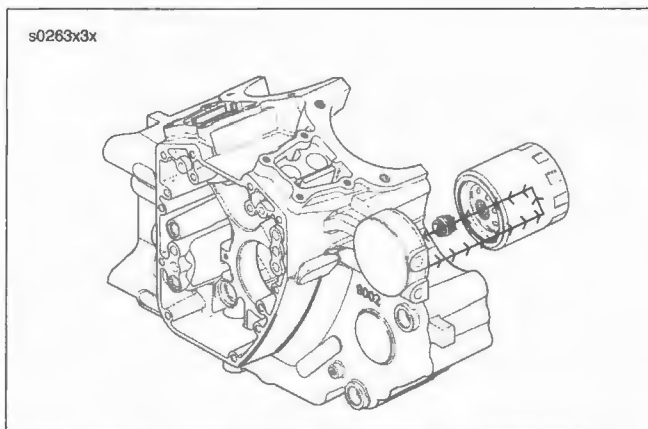

Figure 3-3. Oil Filter Flow
Oil not returned to the feed side exits a hole on the inboard side of the cam support plate and passes through a hole in the crankcase flange. Flowing through a passageway in the crankcase, where a reading is taken by the oil pressure sending unit (8), the oil exits the lower hole in the oil filter mount. See Figure 3-3.